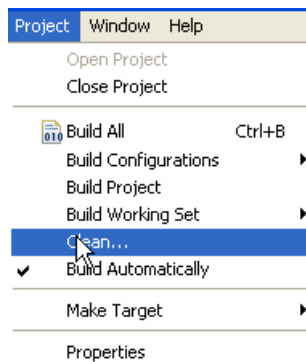

Figure 5-2 · Project Clean
2. Perform a project clean by selecting **Project** from the SoftConsole menu, then selecting **Clean** (Figure 5-2)